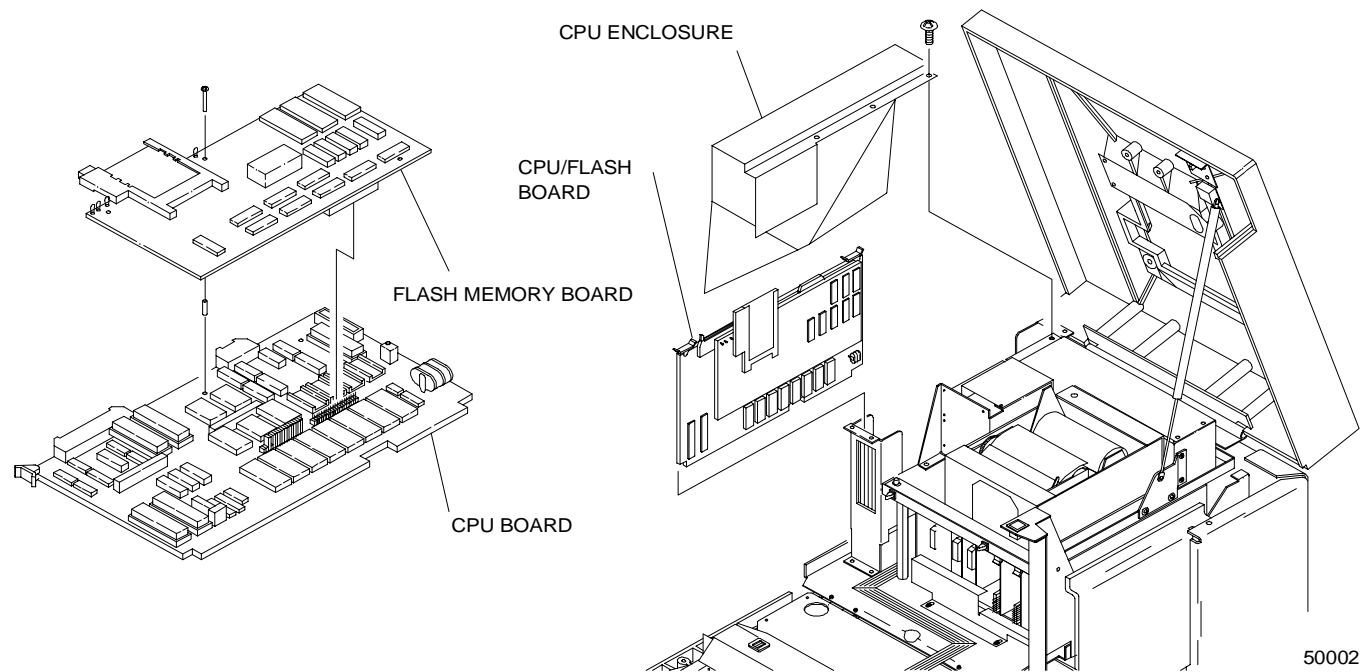

Figure 4-2. CPU Bd Removal
- d. If customer used the Quality Control Database (QC), print the QC directory.
4. Remove CPU Bd Cover. (See **Figure 4-2.**)